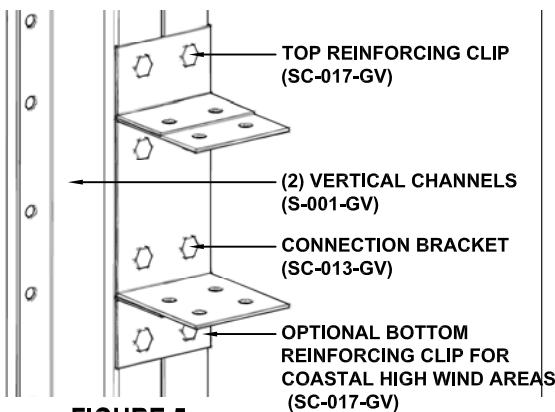

FIGURE 5
1. **Figure 5** - Interior Structural Connection Detail - Top Reinforcing Clip (SC-017-GV), Connection Bracket (SC-013-GV) and Bottom Reinforcing Clip (SC-014-GV) (for coastal high wind areas) all connected with  $\frac{3}{8}$ " bolt/nuts. Interior support shown. **ALWAYS INSTALL THE TOP REINFORCING CLIP (SC-017-GV).**